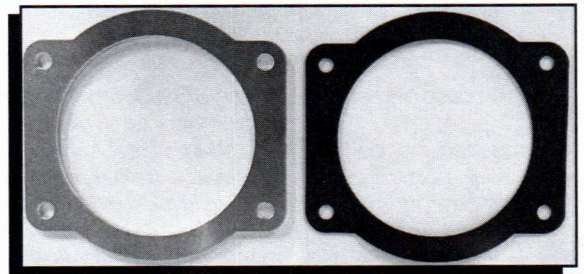

Figure 14 TB Seal Plate and Gasket
7. If re-installing the OEM Electronic Throttle Body, locate the supplied throttle body seal plate and adhesive-backed flat gasket (see Figure 14). Remove the gasket backing material and lay the gasket adhesive side up. Carefully lower the seal plate onto the gasket - making sure all the holes are aligned properly.